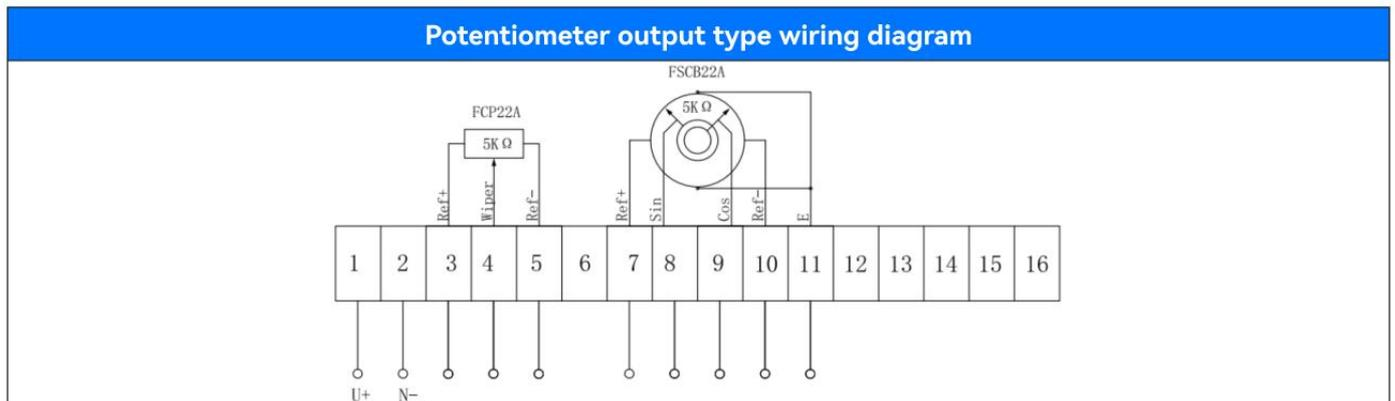
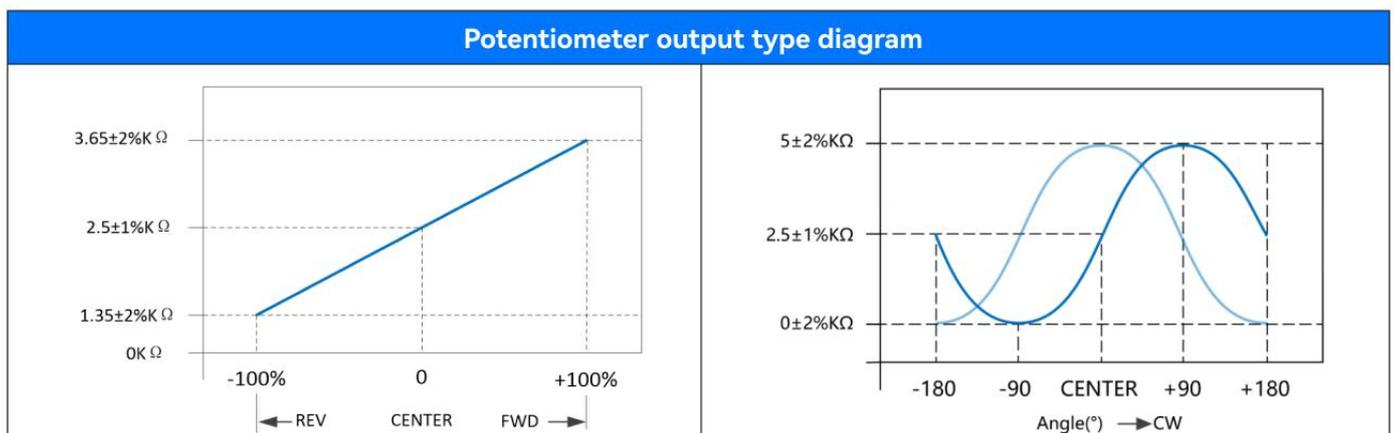

Figure 2.3
Figure 2.4
1. Output signal: The full-rotating handle can choose direct potentiometer output mode, wherein Y axis adopts linear potentiometer output and Z axis adopts triangle wave potentiometer output. The wiring diagram is shown in FIG. 2.3, and the corresponding output relationship is shown in FIG. 2.4.